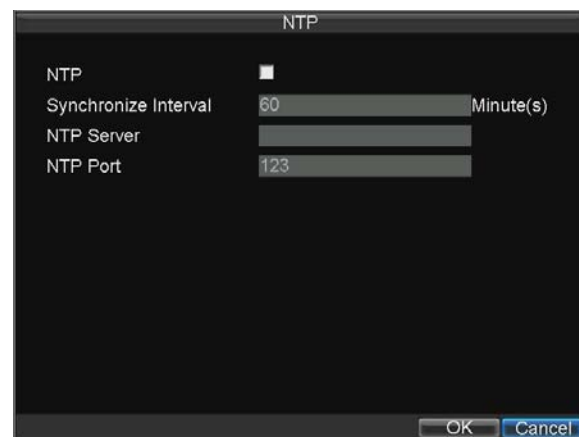

Figure8. NTP Settings Menu
3. Click the *Set* button next to **NTP** to enter the NTP Settings menu, as shown in Figure 8.